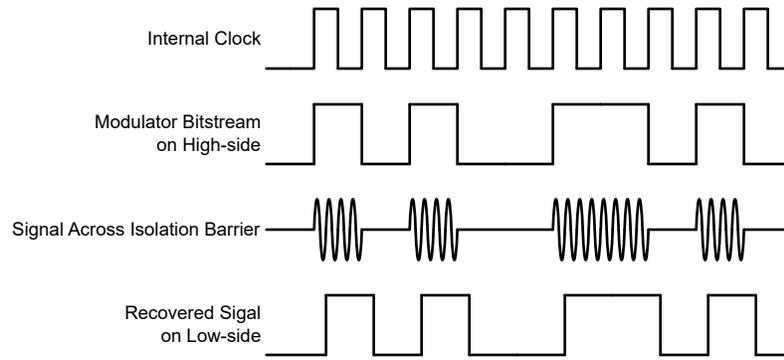

Figure 7-1. OOK-Based Modulation Scheme
As shown in Figure 7-1, the AMC0x11R-Q1 uses an on-off keying (OOK) modulation scheme to transmit the modulator output bitstream across the SiO₂-based isolation barrier. The transmit driver (TX) is illustrated in the Functional Block Diagram. TX transmits an internally generated, high-frequency carrier across the isolation barrier to represent a digital one. However, TX does not send a signal to represent a digital zero. The nominal frequency of the carrier used inside the AMC0x11R-Q1 is 480MHz.